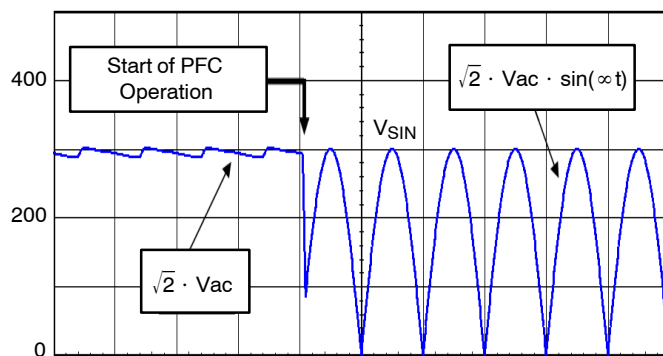

Figure 69. Typical Input Voltage of a PFC Stage
i.e., about 64% of the previous value. Therefore, the same line magnitude leads to a  $V_{Pin2}$  voltage that is 36% lower when the PFC is working than when it is off (refer to Figure 69). That is why the NCP1605(A) features a 50% hysteresis ( $V_{BO L} = 50\% V_{BO H}$ ).